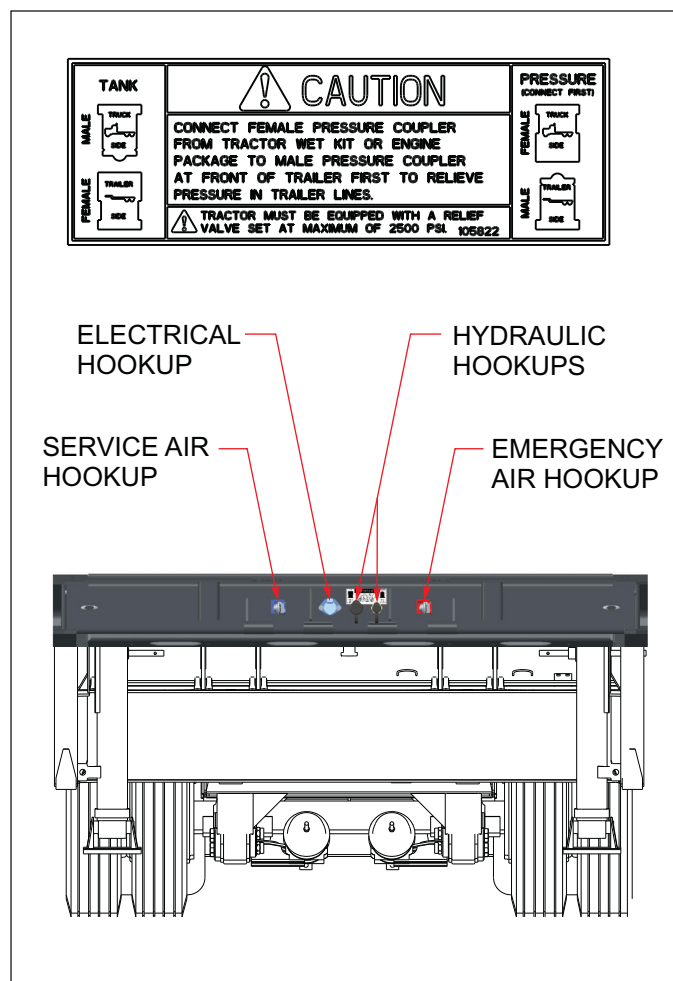

Figure 3-3: Service Hookups
3. Connect the service and emergency air hoses of the towing vehicle to their respective gladhand on the front of the semitrailer; red emergency line to the gladhand with the "EMERGENCY" tag, and the blue service line to the gladhand with the "SERVICE" tag (*See Figure 3-3*.) Chock the semitrailer wheels before activating the semitrailer air supply valve in the towing vehicle. Set the parking brakes.
1. Connect the towing vehicle 7-pole electrical plug to the electrical receptacle on the front of the semitrailer (*See Figure 3-3.*)